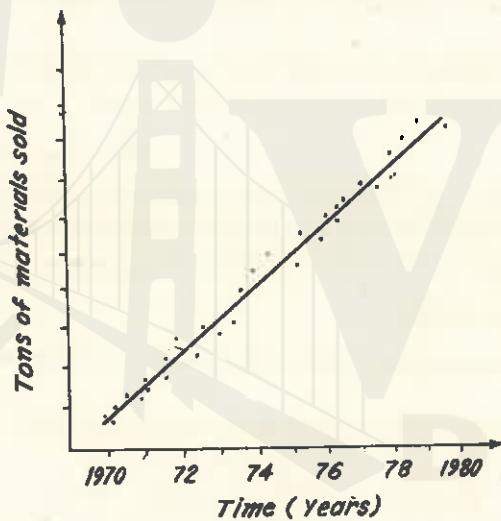

Fig. 7.3. Trend line technique.
- This technique involves plotting historical data, i.e., a diagram (Fig. 7.3) between activity indicator, e.g., tons of material (say past sales) on Y-axis and time on X-axis.